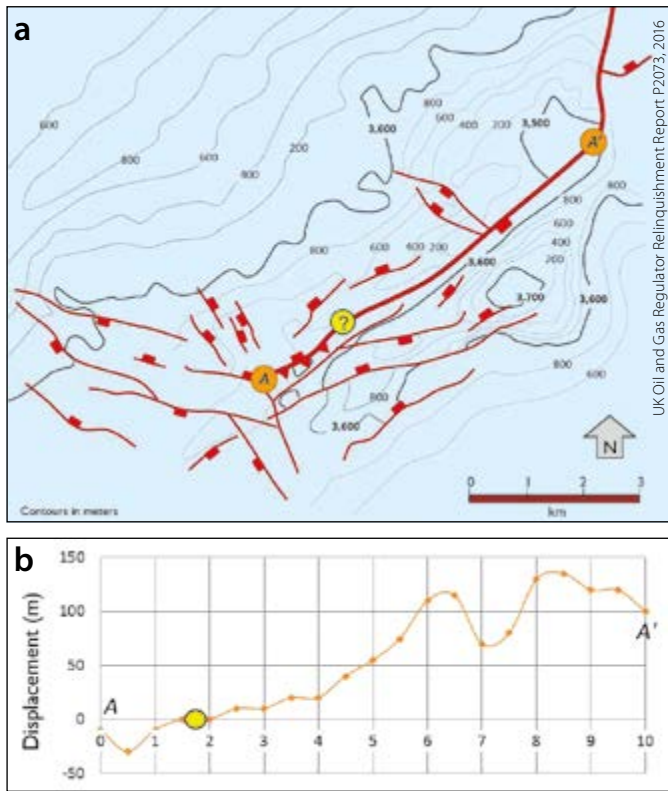

Figure 4: (a) Top reservoir map derived from a UK North Sea relinquished block report. (b) displacement calculated along fault A-A'.
**Case Study 2:** Here the structure is slightly more complicated, with two sets of normal faults intersecting at approximately 90° (Figure 4). Again, a displacement graph has been generated for one of the principal faults (A to A'). From A' the displacement increases slightly but then drops around point 7, probably associated with the intersection of two orthogonal faults observed on the map. Tracing the fault further south-west, the displacement drops to zero and then becomes negative, i.e. an apparent thrust fault. Could this be a result of structural inversion? An alternative is that the polarity of the fault has flipped and that separate faults with